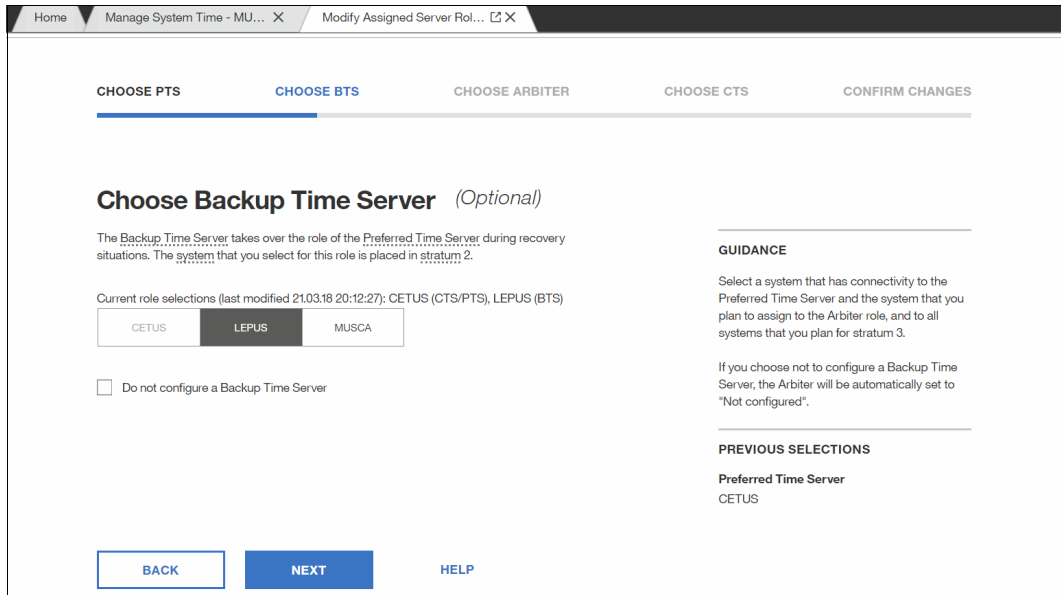

Figure 8-63 Choose Backup Time Server window
- The Choose Backup Time Server window opens. In the window, select the CPC name to use for BTS. In this example, we choose LEPUS to remain the BTS. Click **NEXT** to continue (see Figure 8-63).